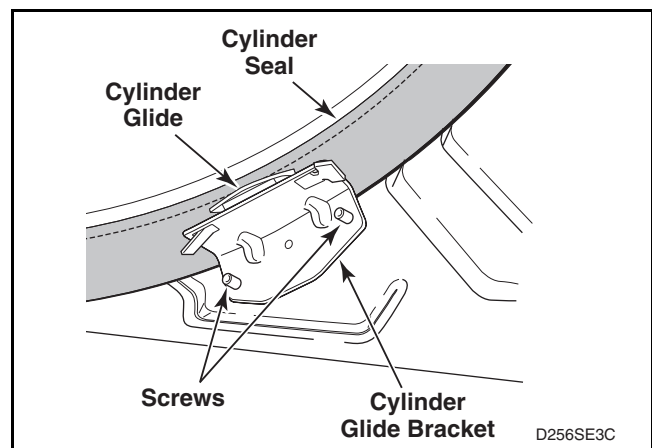

Figure 31
- Cylinder Glides and Glide Bracket.** Refer to *Figure 31*.